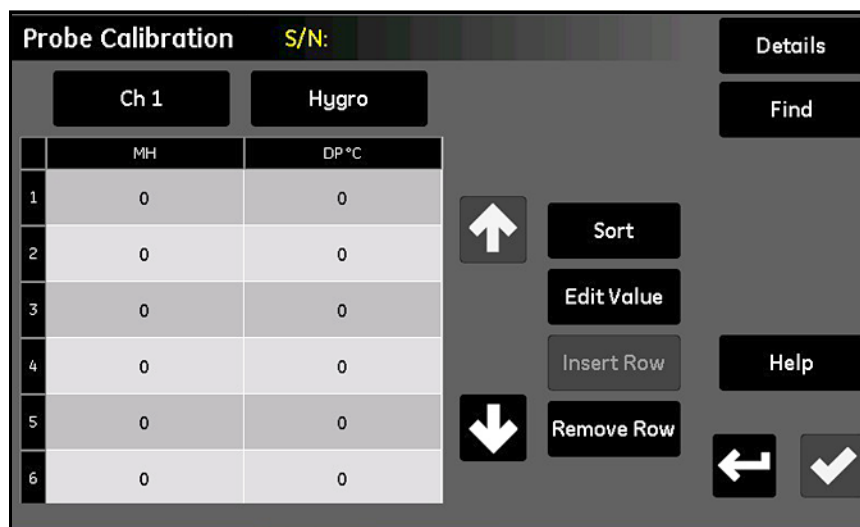

Figure 58: Probe Calibration Screen
1. From the *Configuration Menu*, tap the **Probe Calibration** button to open a *Probe Calibration* screen similar to *Figure 58 on page 62*. **Note that the serial number of the corresponding probe is listed at the top of the screen for reference.**